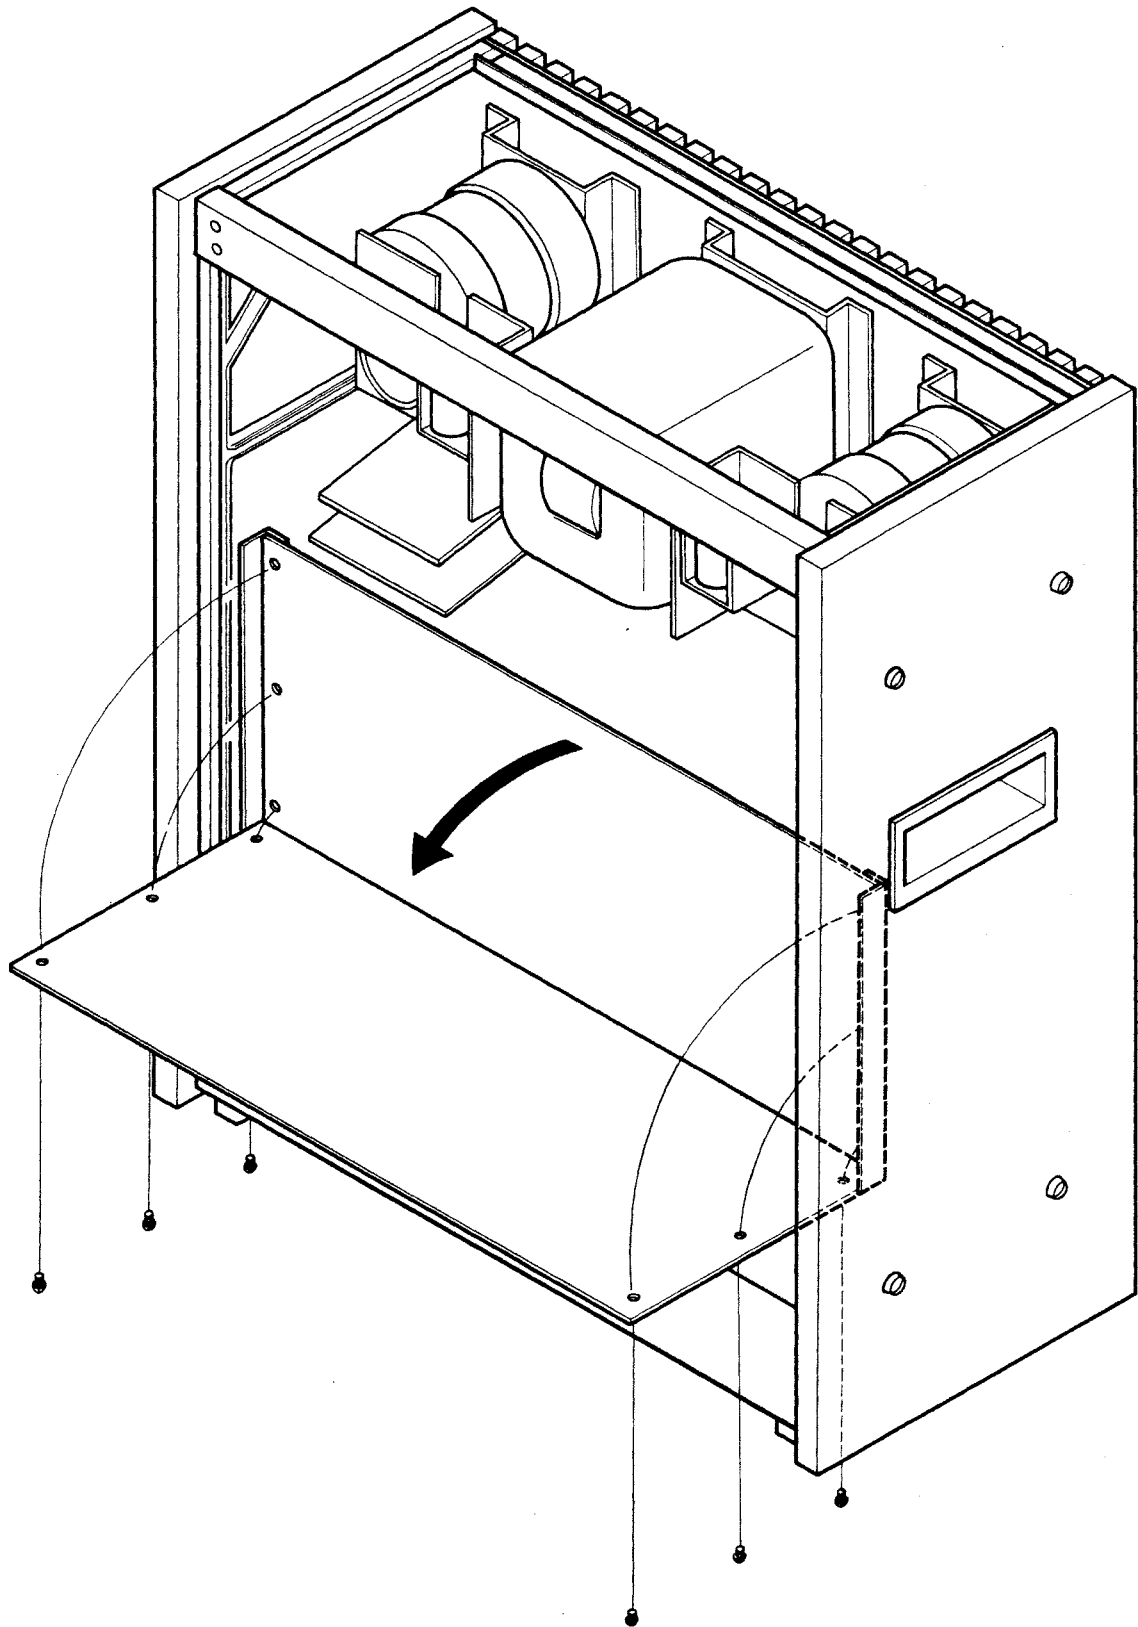

Figure 5-7 Rotating Control P.C.B.
- (5) Remove the rear cover of the recorder by removing 10 screws, then open the Control P.C. Board Ass' y by removing both sides 6 screws. (Refer to Figure 5-7.)
- (6) Use a vacuum cleaner and a small brush to remove all dust or contamination from the interior of the transport. If necessary lightly moisten brush with isopropyl alcohol to clean parts.
- (7) Install the rear cover and the Control P.C. Board Ass'y.